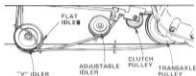

FIGURE 31
- Roll Belt off "V" Idler, Flat Idler and Adjustable Idler Pulleys (Fig. 31).
- Make sure "V" part of Belt engages "V" Idler (Fig. 31).